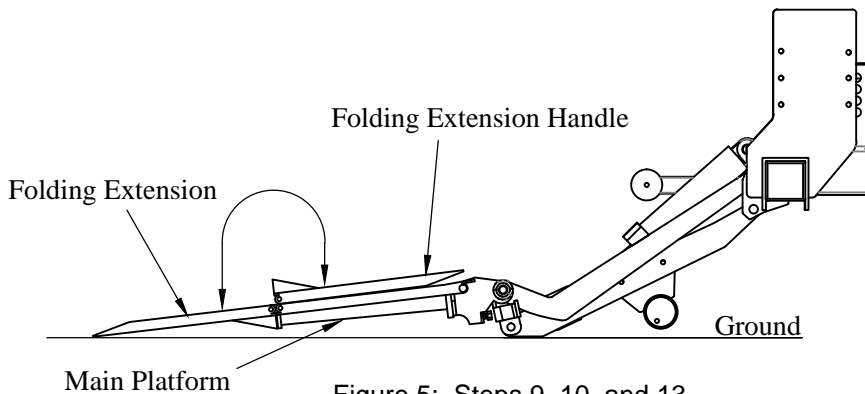

Figure 5: Steps 9, 10, and 13.
9. Stand off to the side and unfold the platform folding extension (Figure 5).
12. To close the platform, stand to the side of the platform, not under or behind the platform. With the liftgate lowered, close and lock the platform cart stops, if so equipped, then fold the folding extension by lifting on the handle (Figure 5).